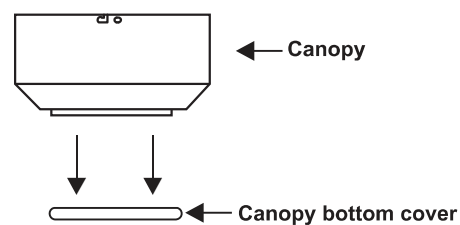

Fig.11
1. Remove the decorative canopy bottom cover from the canopy. (Fig. 11)